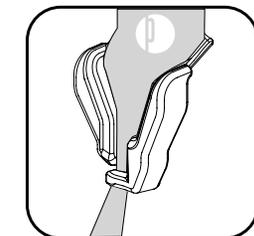

Figure 11
- C. The Sleeve must be woven into the bottom portion of the plastic handle (Figure 11).